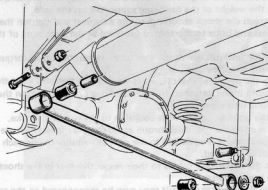

Fig. 8.4. Location of Panhard rod (Sec. 2)
5. Undo and remove the nut and bush retaining the Panhard rod to the end of the axle casing (Fig. 8.4).